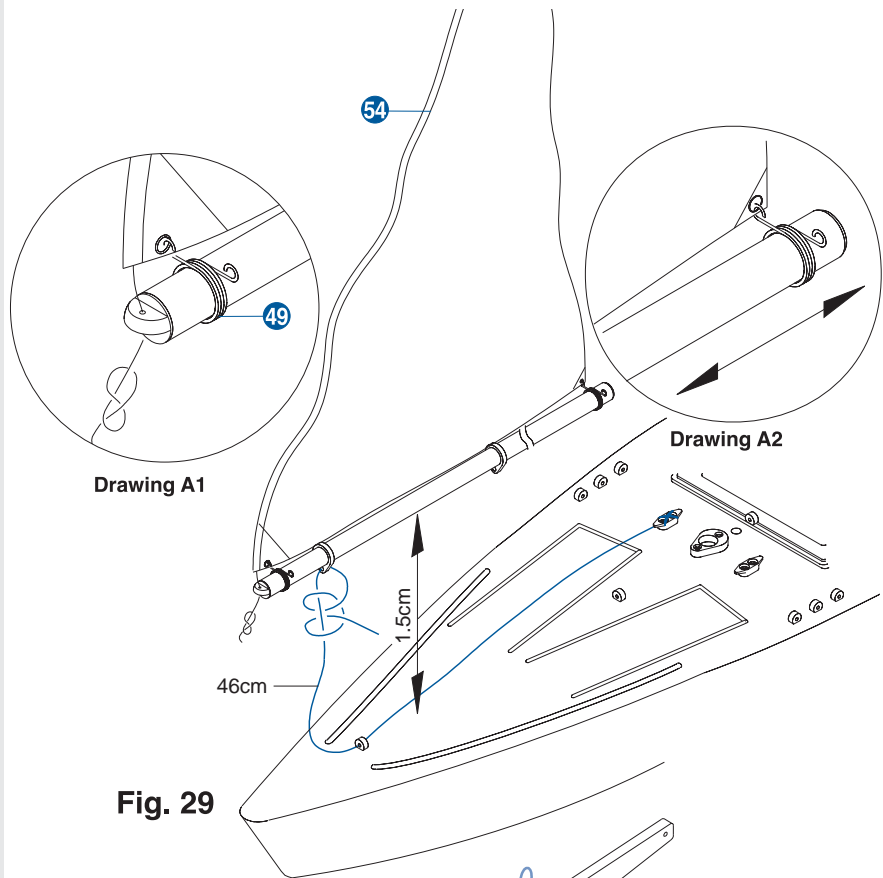

Fig. 29
1. Thread the jib line through the front jib boom end cap and secure a "TYPE A" knot as shown in Fig. 29.
5. Cut a piece of rigging string to a length of 18" (46cm). Attach one end to the forward jib boom ring using a "TYPE B" knot. Thread the other end through the bow eyelet, and attach to the deck cleat using a "TYPE C" knot as shown in Fig. 29.